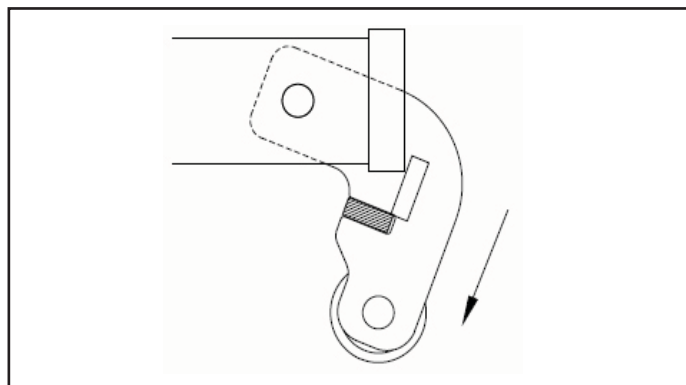

Fig. 2
2. **IMPORTANT NOTE:** Improper fit with too much space at point 'A' will cause the Roller Hitch protector to drop down creating a dangerous installation (Fig. 2).